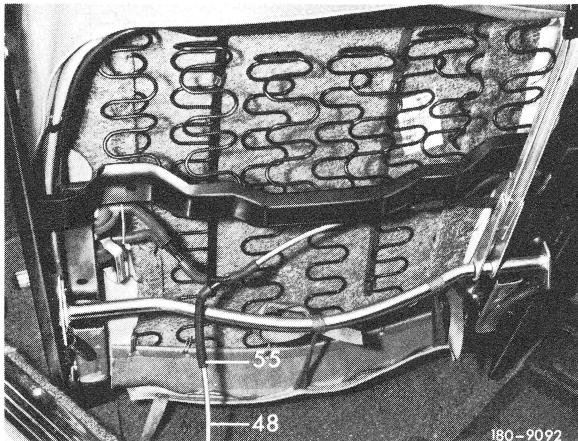

Fig. 1
- 2 Separate blue vacuum line (48) from hose line (55) (Fig. 1).
14 Connect blue vacuum line (48) with hose line (55) (Fig.1).